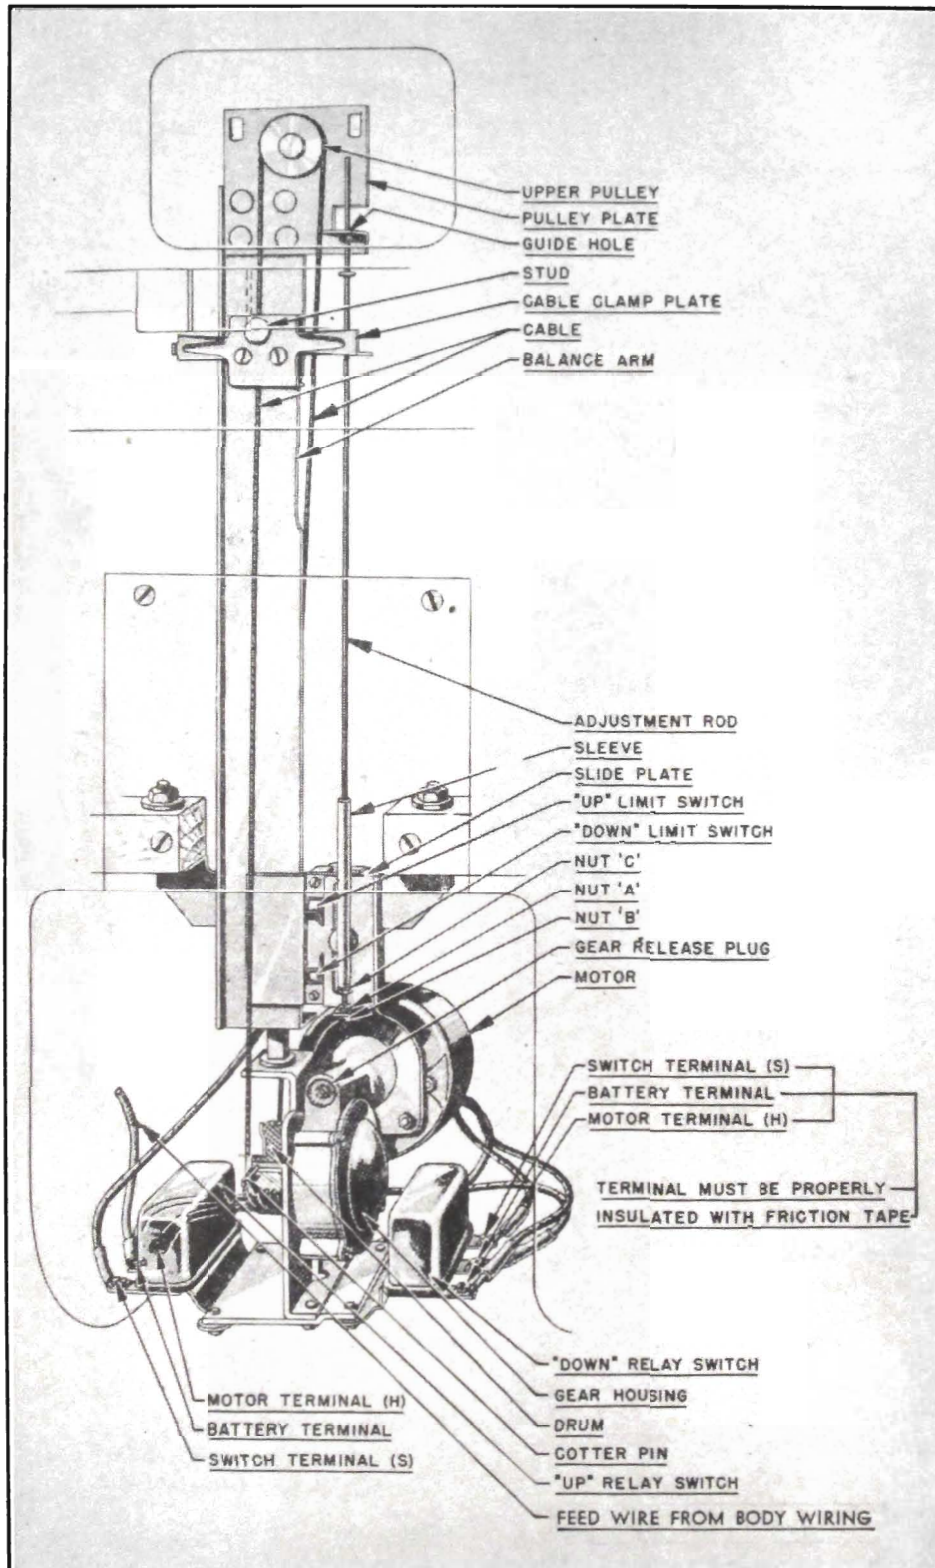

Fig. 1-88. Center Partition Window Regulator—Series 90
- are attached as shown. Fig. 1-88. The partition